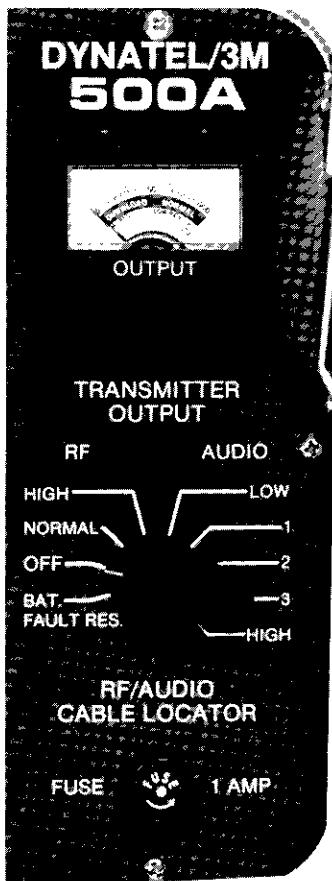

Fig. 3 — Transmitter Unit Control Panel
2.02 The TRANSMITTER (Fig. 3) has a single selector switch located on the panel next to the accessory storage well. Above this switch is a meter which indicates transmitter output level and functions as a volt-ohmmeter.